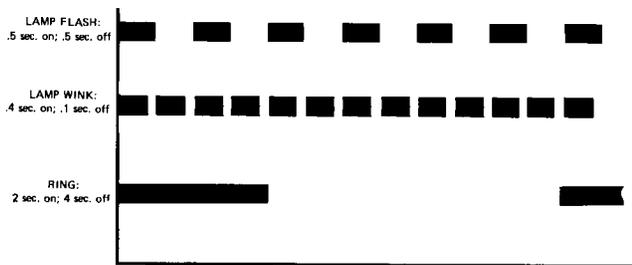

Figure 2.
### 2.2.2 Output (See Figure 2)
The SB6604 Solid State Interrupter provides periodic signals to operate audible ringers and teletest lamps in a KEY TELEPHONE SYSTEM. When a line card activates the interrupter by closing the motor start (ST) to lamp ground (LG), voltage is applied to the unit consisting of an oscillator, timing and gating circuitry. The unit generates the lamp wink, lamp flash and ring signals as shown in Figure 2.